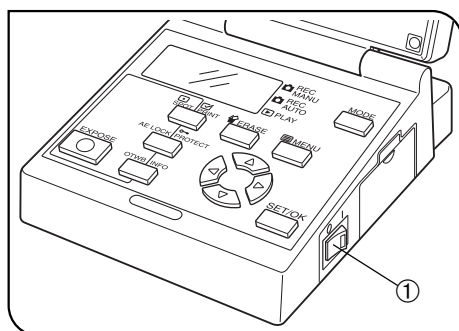

Fig. 7
◎ After installing the SmartMedia, press the main switch ① of the control box to turn it ON. (Fig. 7)